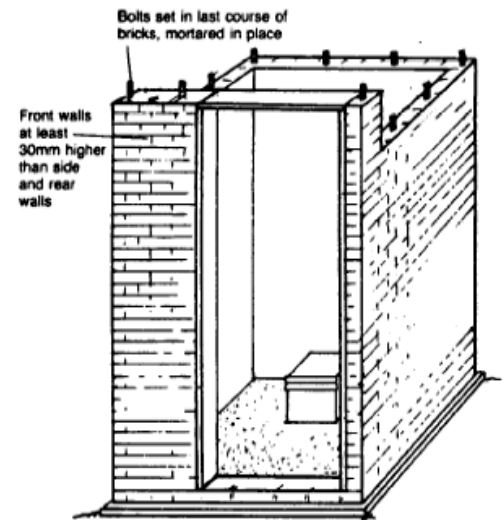

Figure 18. Constructing Brick Shelter
5. Place bolts about 12mm diameter by at least 100mm long in the top bricks near the corners of each wall as shown in figure 18. Mortar the bolts in place with the thread ends up.